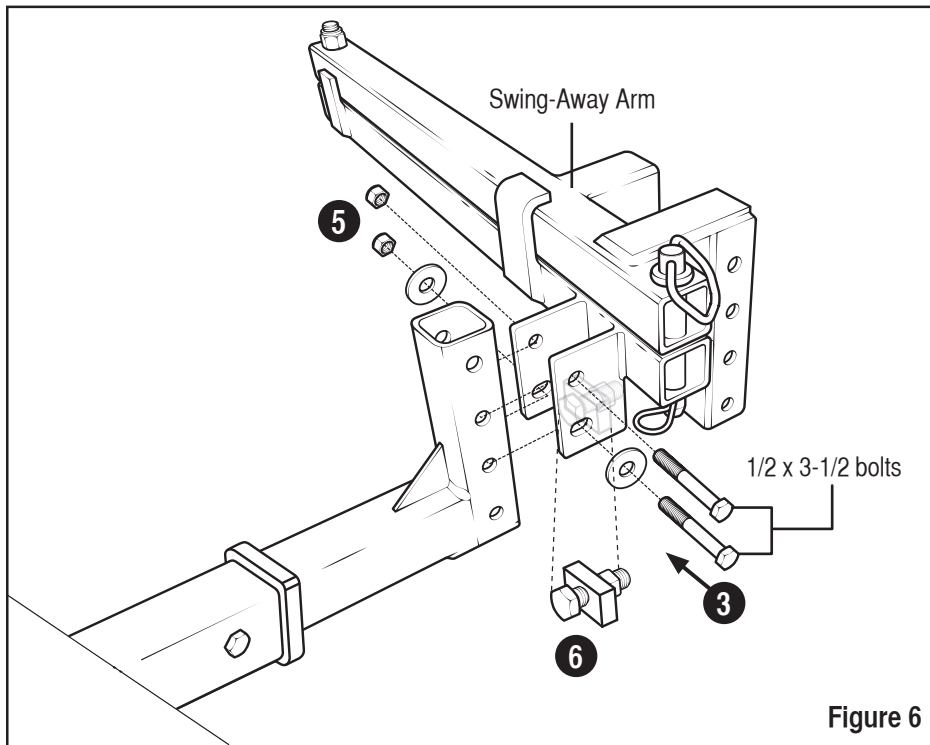

Figure 6
1. Place the Swing-Away Arm over the Hitch Connector and align the mounting holes (**Figure 6**).